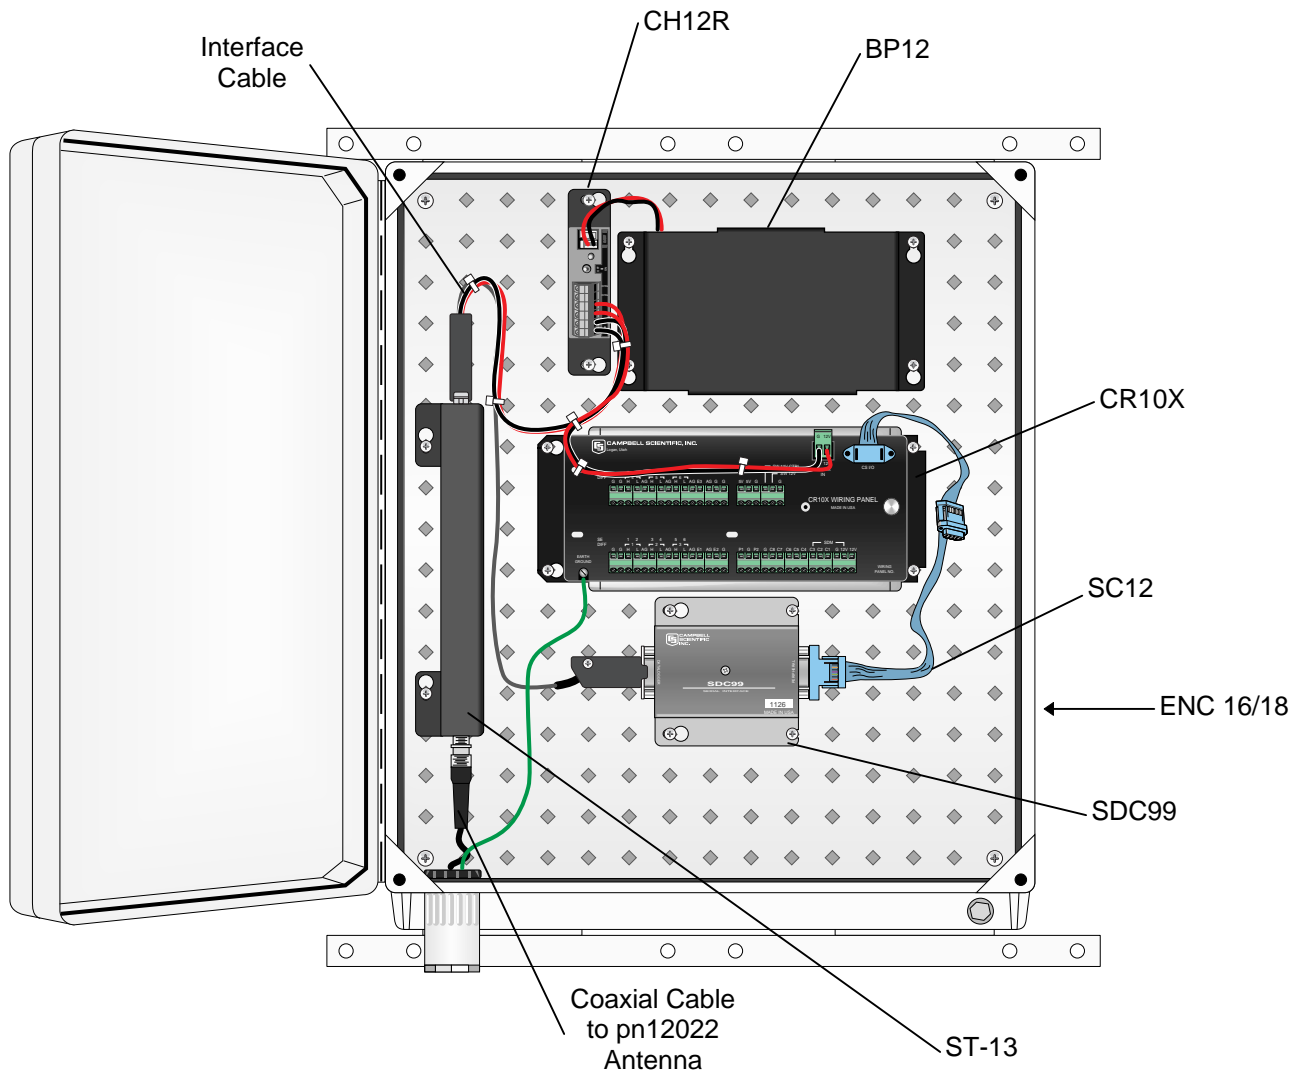

FIGURE 1. ST-13 Enclosure Assembly
Physical connections between the datalogger and ST-13 are handled by a 9-pin serial cable (SC12), SDC99 Synchronous Serial Interface, and a 9 to 25 pin custom serial cable. The SDC99 provides a synchronous interface to allow other synchronous devices such as storage modules and keypads to be connected at the same time. The SDC99 also provides a tri-stated wake up signal to the ST-13 prior to commands being sent from the datalogger. (See Figure 1.)
7. See Figure 1 for an enclosure assembly view.